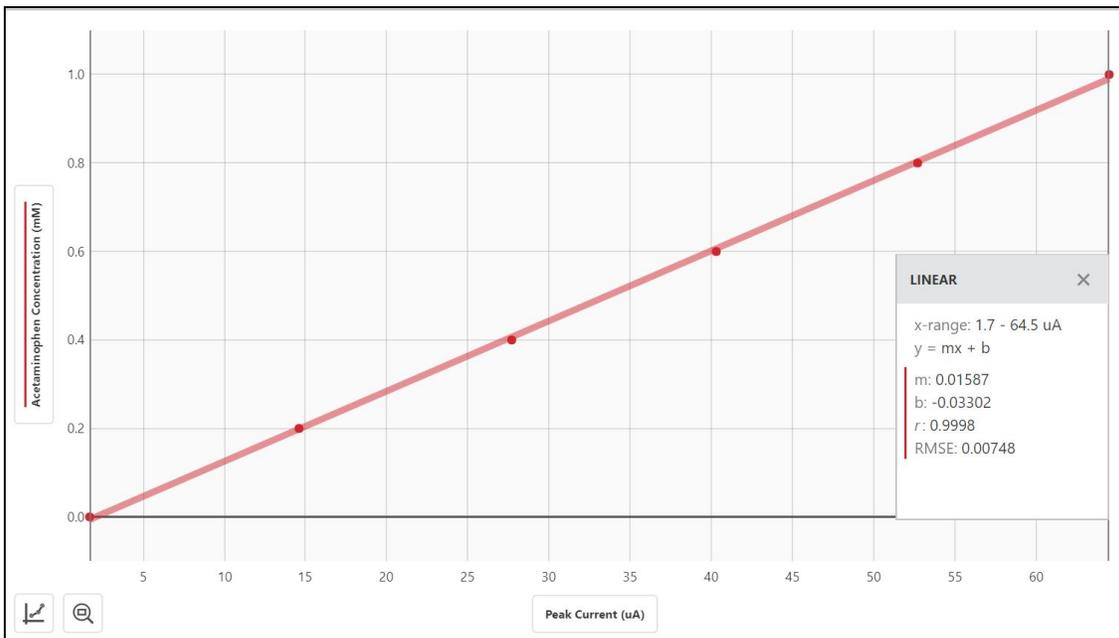

Figure 3 Calibration curve of acetaminophen standards
1. See Figure 3.
2. From Figure 3, the calibration curve is $y = 0.01587x + (-0.033)$